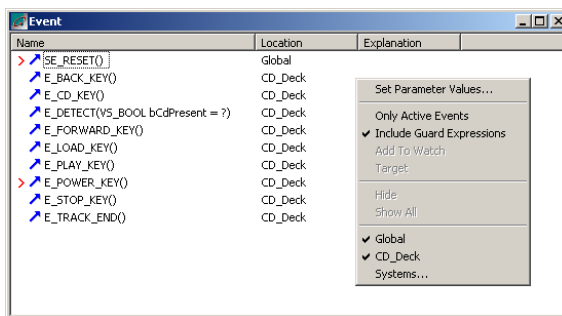
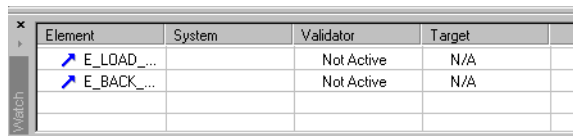

Figure 119: Event window (Validator), with pop-up menu
Figure 126: Validator Watch window with elements added
The Event window provides a view of all events defined in the loaded Project, and is used for sending events into the System(s). See *Figure 119*, page 153.
- 2 Open the pop-up menu, and choose **Add to Watch** (see example in *Figure 119*, page 153), or press SHIFT+F9. The element will be added to the Watch window. See *Figure 126*, page 157.